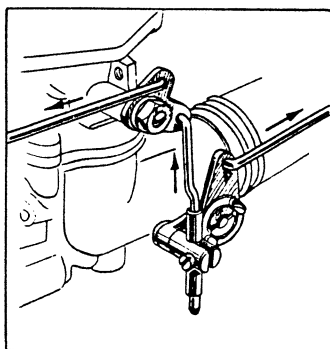

FIG. 19
The rich mixture necessary to meet this condition is provided by closing the choke or air strangler (22) and it will be noted that this action has the effect of opening the throttle the correct amount to ensure easy starting, Fig. 19. As soon as the engine is
Check the inter-connection between the choke and throttle lever to ensure that this works quite freely, see Fig. 19. The choke plate, complete with its spindle should move quite freely against the light anchoring spring when plate is held in the closed position and pushed with the finger.